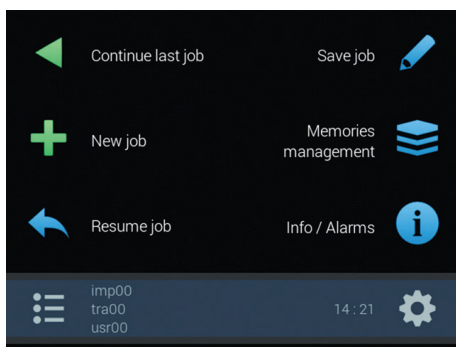
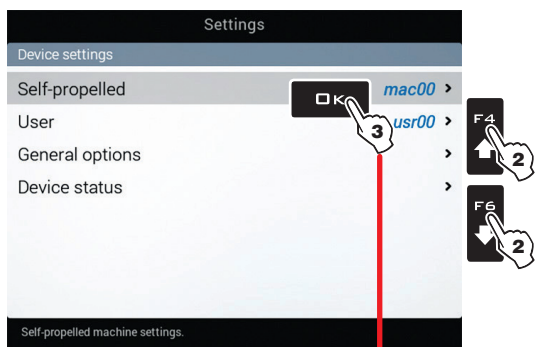

Fig. 28
Fig. 29
AN OVERVIEW OF NAVIGATION CAN BE FOUND IN Fig. 29 AND Fig. 30.
- 1 In the "Home" screen (Fig. 28) press **F8** to enter the **Settings** menu (Fig. 29 / Fig. 30).